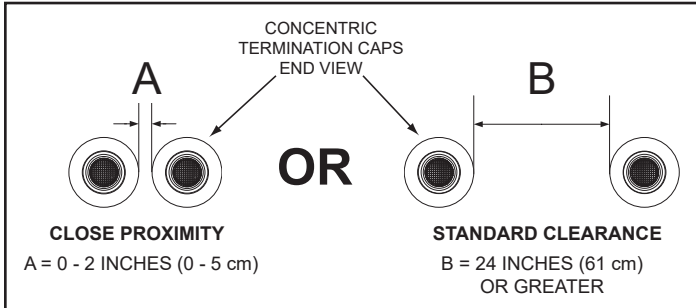
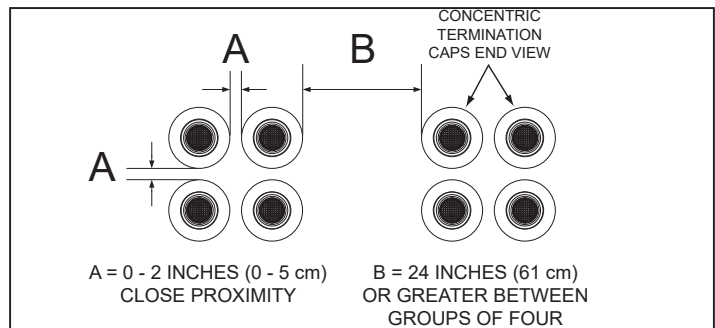
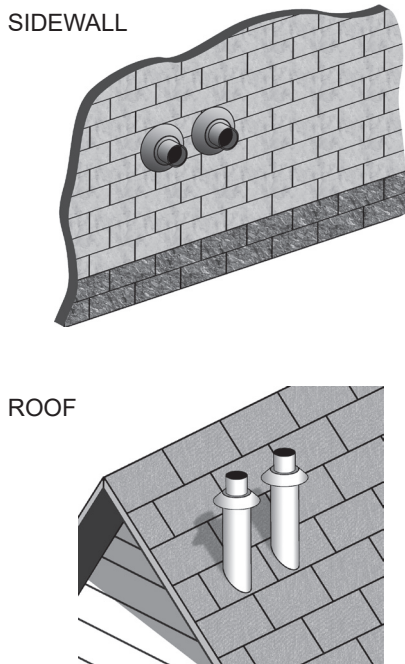
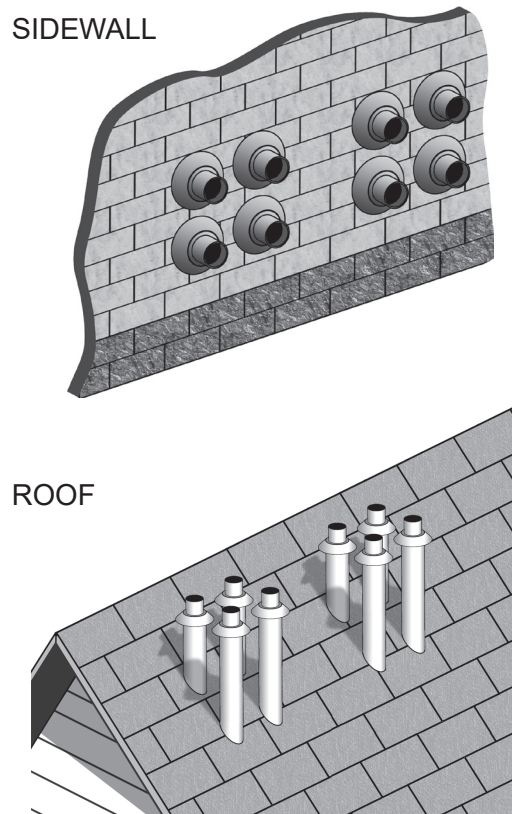

Figure 45. Two Concentric Terminations
Figure 49. Eight Concentric Terminations
Figure 50. Two Concentric Terminations - Sidewall and Roof
Figure 52. Eight Concentric Terminations - Sidewall and Roof
When installing multiple concentric terminations through a roof or through a sidewall, the clearances shown in **Figure 45** (page 43) through **Figure 49** (page 43) must be maintained.
1. The clearance between multiple termination caps must be 0 in (0 cm) / touching to a maximum of 2 in (5 cm), dimension A - *Figure 45*, when installing concentric terminations in close proximity. See *Figure 45* through *Figure 49*.
2. The clearance between multiple termination caps must be increased to a minimum of 24 in (61 cm), dimension B - *Figure 45*, when installation in close proximity (above) is not possible. This is the standard clearance.
1. When installing multiple groups of concentric terminations through a roof or through a sidewall in close proximity, they can be installed into stacked groups of four as shown in *Figure 52* (page 44). Lateral groups of four as shown in *Figure 49* can be a more convenient installation arrangement for multiple groups, depending on available space.
Two concentric terminations can be installed in close proximity as shown in *Figure 50* or with standard clearances when this arrangement is not possible. See *Figure 45* (page 43) for detailed information